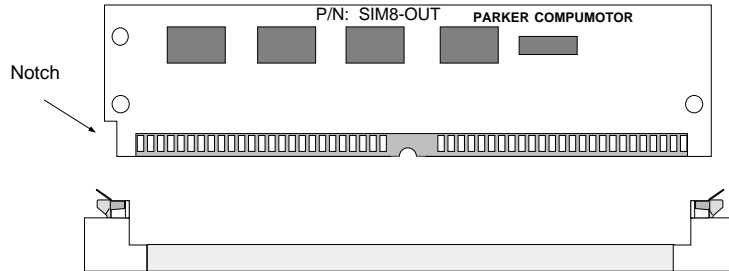

Fig. 9: I/O Board and Socket
1. Insert the I/O board into the socket, as shown in Fig. 9 above, and in Fig. 10 below. Start the I/O board at an angle of approximately 30°.